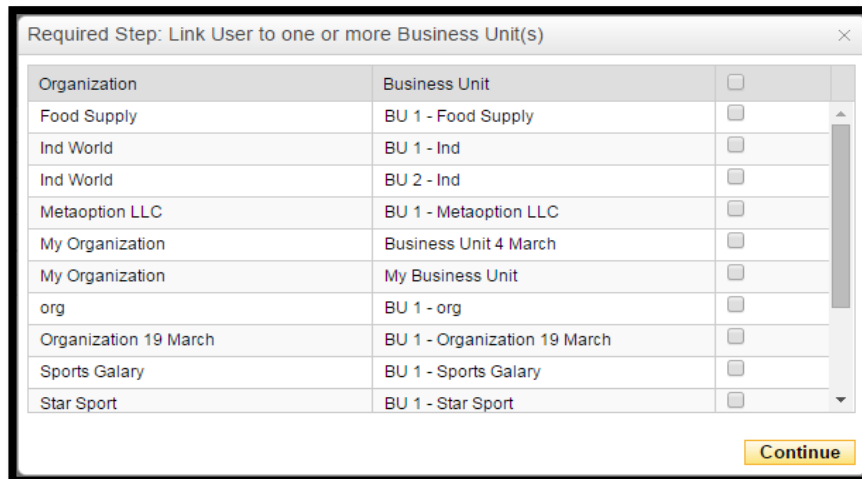

FIGURE 3.3
Step1: Click on the Add User Button, on clicking a new popup window will be displayed, asking to link a sub user with one or multiple Business Units. (Figure 3.3)